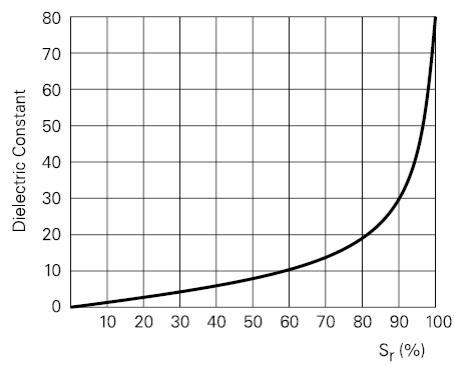

Fig: 3
- 5A.** A capacitive sensor with a sensing range of 10mm is used on a robot end effector to detect the presence of the object on a conveyor. There is blind range for the sensor; the object cannot be placed very close to the object. The sensor can only be placed to a distance of 4mm from the object. Based on the data given in the fig: 3 and fig: 4, prepare a list of materials from the available list that can be detected by the sensor. **(04)**